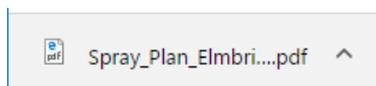

Figure 1
- **Download** - This will generate a PDF, which you can open from the bottom of the web browser (figure 1) or in the downloads folder of your computer (figure 2).